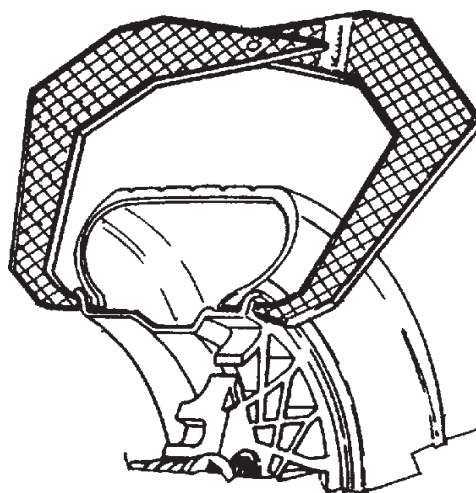

Figure 23
4.5.2.2 Measure Rim Width Manually using rim width calipers. Measure wheel where corrective clip-on weight would be applied, Figure 23. Enter the measured width by pressing the **Parameter** button followed by the **UP** or **Down** arrow button until the desired value appears in the right display.